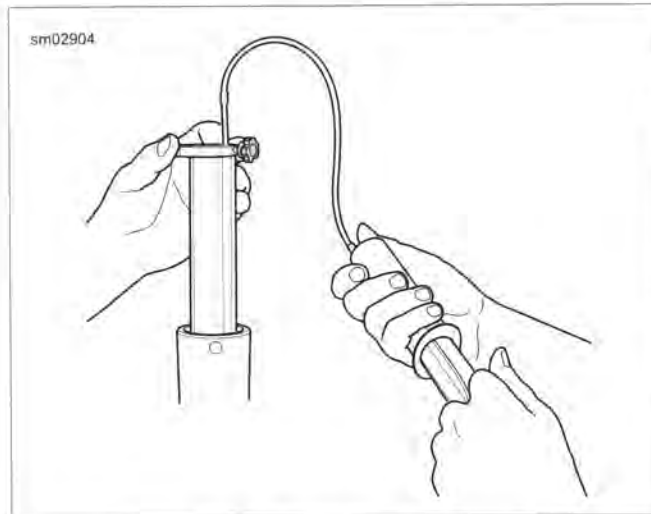

Figure 2-105. Remove Excess Fork Oil
- d. See Figure 2-105. Insert rod into top of fork tube until metal ring rests flat on top of fork tube.